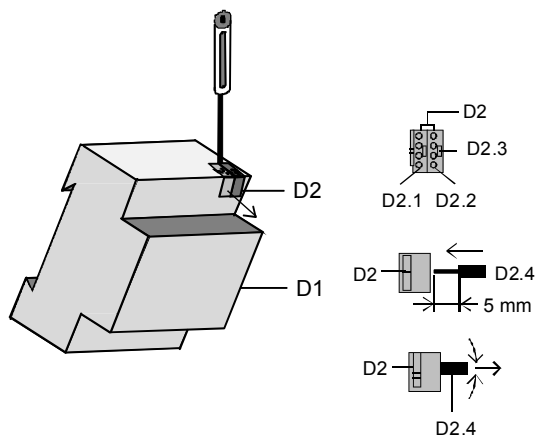

Figure 3: Attaching / removing the bus terminal
Removing the bus terminal (Figure 3)
**5WG1 263-1EB01**Attaching the bus terminal (Figure 3)